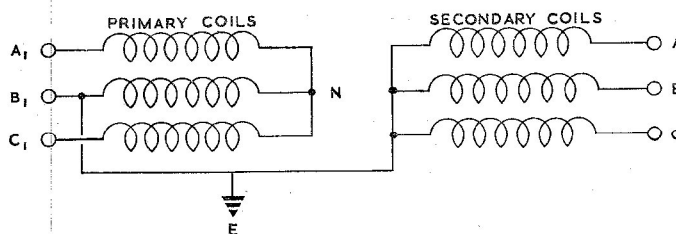

Fig. 2. Diagram of internal connections
2. The primary and secondary phase of the transformer are star connected (*fig. 2*) and the output voltage is 45 volts at 120 volt/ampères.